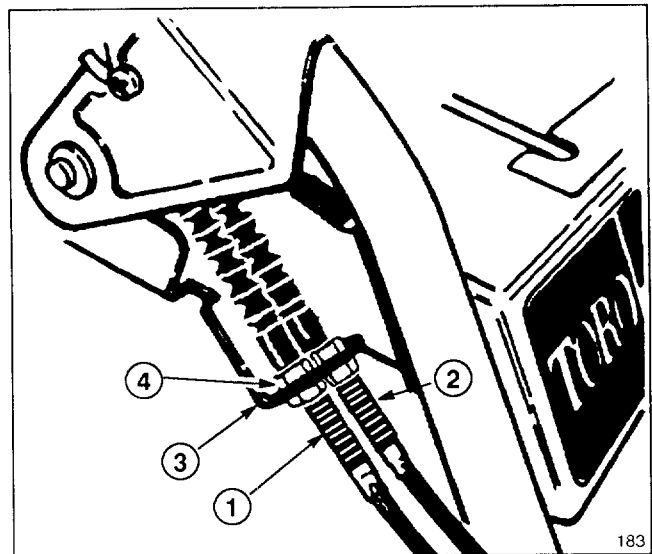

Figure 29
4. Loosen upper jam nut securing auger/impeller cable to mounting bracket (Fig. 29).
ADJUSTING TRACTION DRIVE BELT (Fig. 29)
8. On control cable which corresponds to belt being replaced, loosen jam nuts securing cable to bracket (Fig. 29). Cable must be free to slide in bracket when changing belt(s).